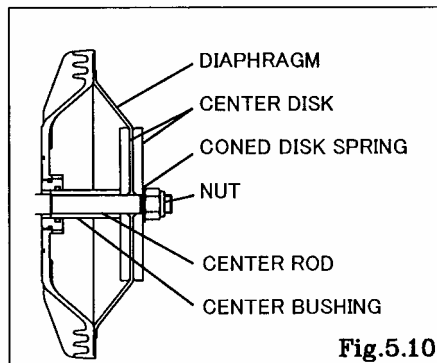

Fig.5.10
Keep the convex side to the outside for TPEE, TPO diaphragms. [Fig.5.10]
- Draw the center disk to one side (exclude B\_H, B\_S types cf. Fig.5.10). and install the out chamber. tighten the bolts temporarily.